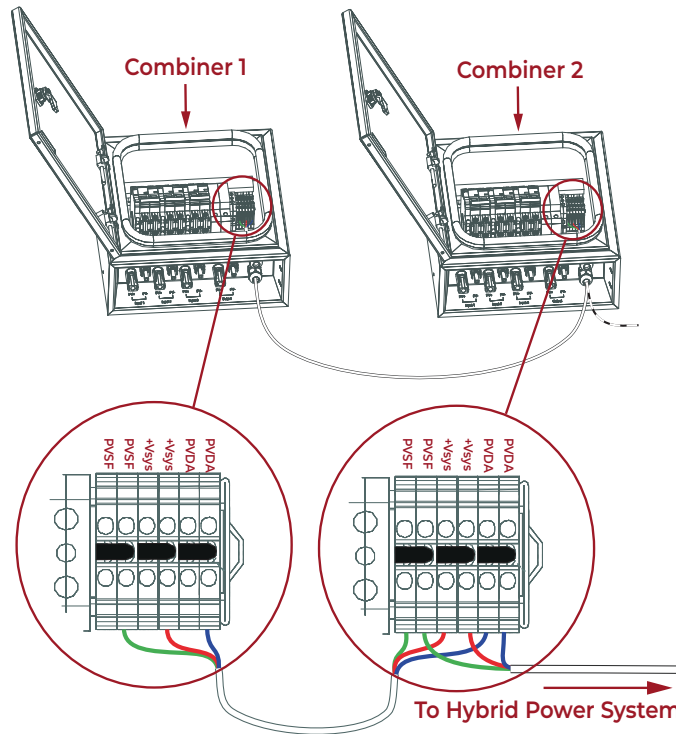

Figure 4-16 Extended Alarm Cable Connection between PV String Combiners
5. Complete the extended alarm cable connection between the alarm terminal blocks of the two combiners (Figure 4-16).